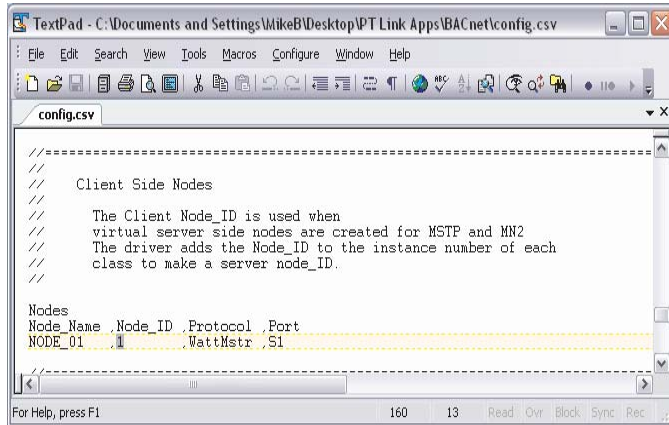

Figure 16: Changing the Node ID in Notepad
11.) The last change you may need to make is the Node_ID under 'Client Side Nodes' which is the BACnet Device Instance Number (Figure 16). The default is 1. You can obtain this information from your BAS Integrator.